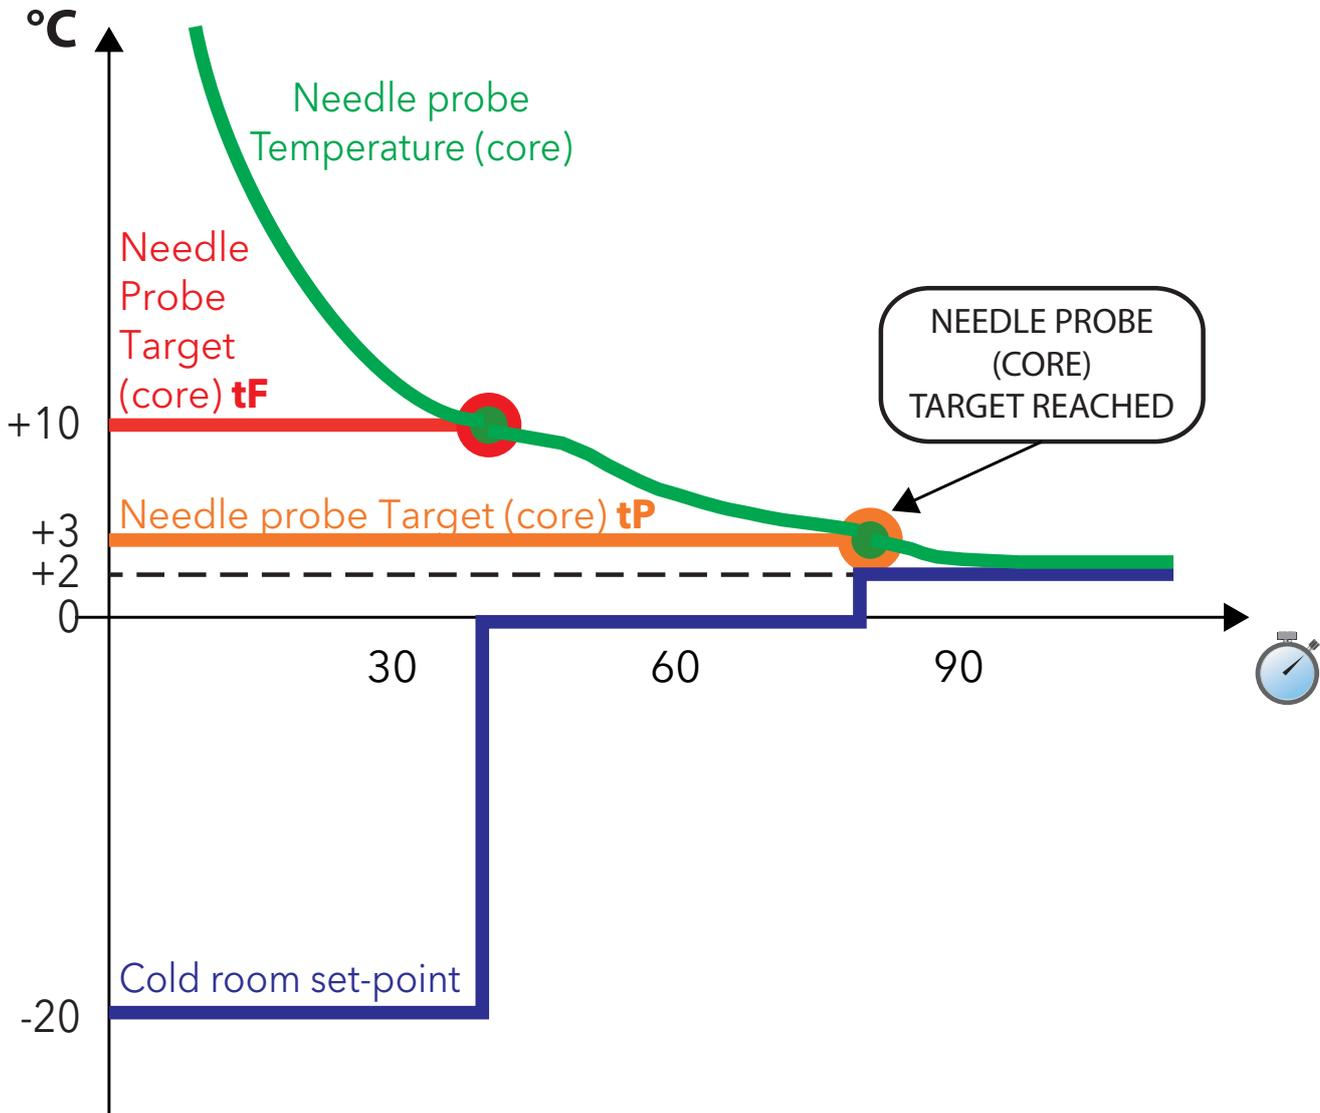

Fig. 14. POSITIVE program with HARD blast chill mode
- Hard blast chill mode (**Fig. 14 on page 34**);
NOTE: The numeric values shown in **Fig. 14 on page 34** are the default values.